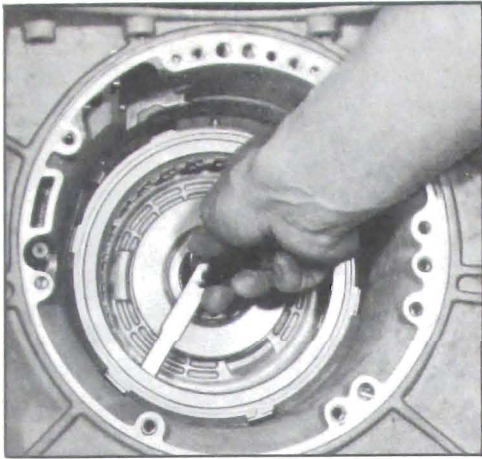

Figure 5-297
11. Insert feeler gauge between reaction plate and adjacent faced plate. See Figure 5-297. Clearance for the reaction plates are shown below: